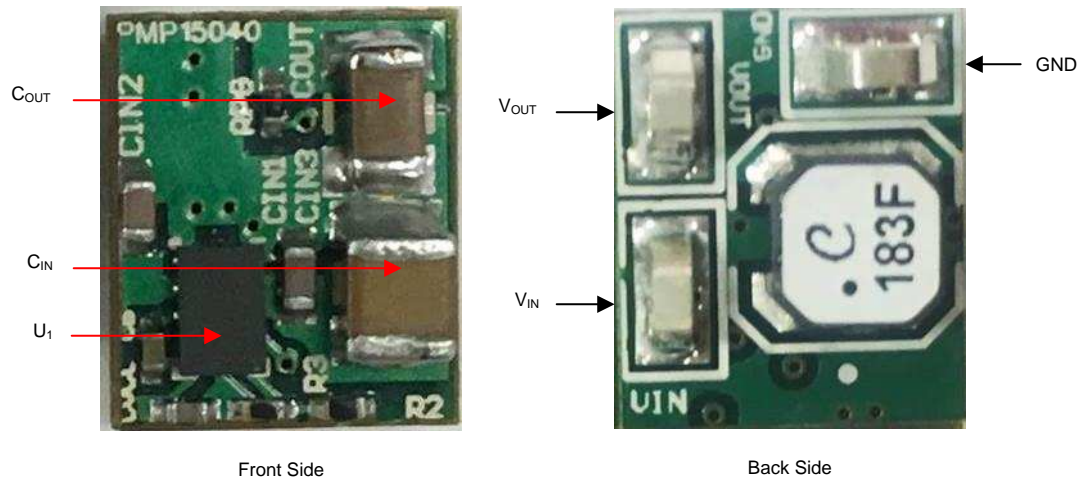

图 14. PMP15040 Board Setup
1. Connect a DC power supply to the board input as shown in 图 14.
2. Connect an electronic or resistive load to the LMR36006 output (V_{OUT}), as shown in 图 14, to imitate the typical load.